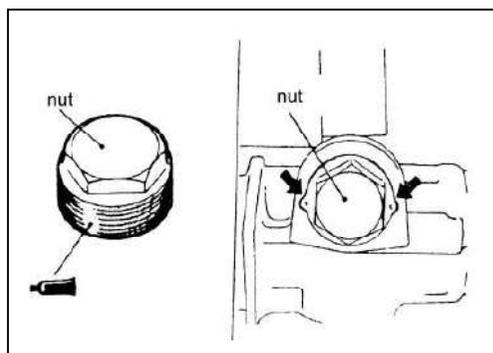

Fig 17-43
9) END PLUG INSTALLATION(See fig 17-43)